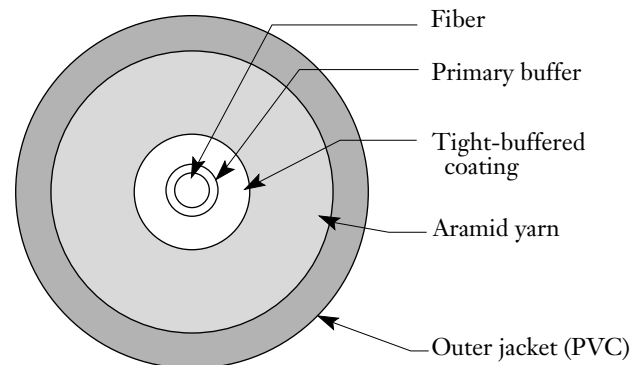

Figure 1
**1.2** Corning Cable Systems tight-buffer interconnect cable is a lightweight, flame retardant cable designed for high performance transmission of digital and analog signals in process control, computer and video applications (Figure 1). This cable series is available with fibers having 50, 62.5, 85, and 100  $\mu\text{m}$  cores for use with a wide variety of optical sources and detectors.